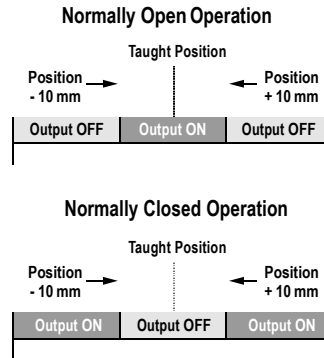

Figure 4. Using the Auto-Window feature for programming each output
The sensor can be configured for either normally open or normally closed operation via the remote teach wire (white). A series of three pulses on the line will toggle between normally open (NO) and normally closed (NC) operation. Normally open is defined as the output energizing when the target is present. Normally closed is defined as the output energizing when the target is absent. (See Figure 3. Teaching independent minimum and maximum limits on page 4 and Figure 4. Using the Auto-Window feature for programming each output on page 5.)